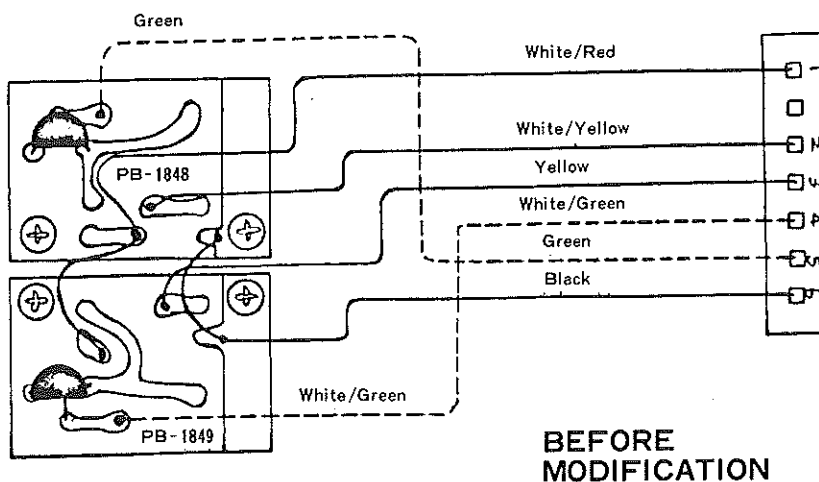
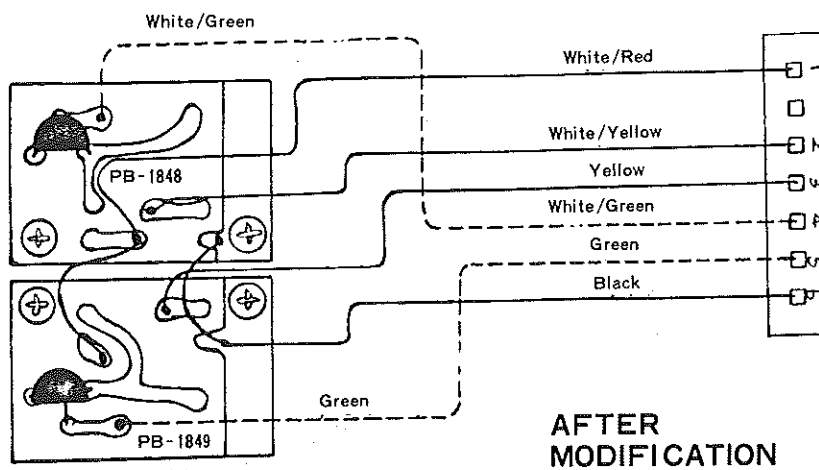

Figure 15.
Figure 16.
- (3) Referring to Figure 15, locate the white/green wire connected between pin 4 of P1 and PB-1848; also locate the green wire connected between pin 5 of P1 and PB-1849. Reverse these wires by unsoldering them from the circuit boards and installing the green wire to PB-1848, the white/green wire to PB-1849. The corrected schematic is shown in Figure 16.